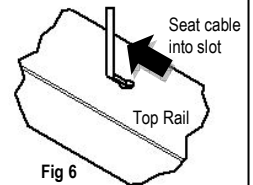

Fig 6
8. Properly seat (Fig 6) and tension cable(s) loosened in step 2 by tightening hex nut(s) on underside of bottom rail. Proper cable tension is 200 lbs. [90 kg] per cable. A cable tension gauge is recommended. **Do not overtighten.**